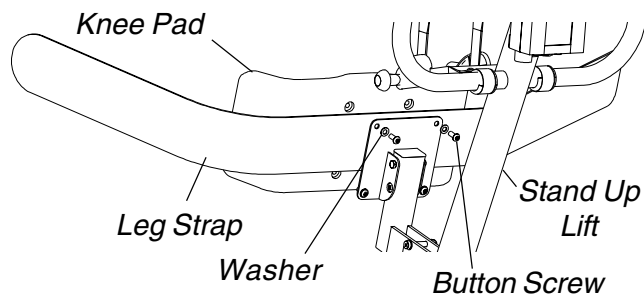

FIGURE 5 - REPLACING OPTIONAL LEG STRAP
REPLACING OPTIONAL LEG STRAP (FIGURE 5)
1. Remove TOP (2) button screws and washers that secure knee pad and existing leg strap to stand up lift.
2. Loosen BOTTOM two (2) button screws and washers that secure knee pad and existing leg strap to stand up lift.
4. Position the new leg strap between the four (4) mounting holes as shown in **FIGURE 5**.